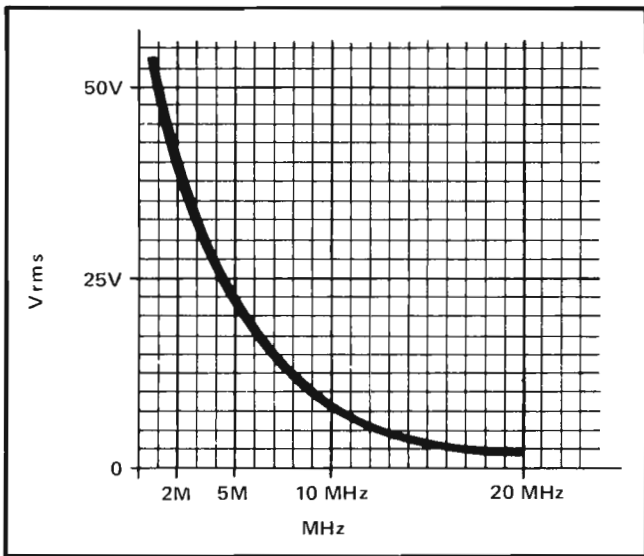

Figure 6-3. MAXIMUM RF SIGNAL LIMITS (V RMS) AT PROBE TIP
- RF signals applied to the 80T-150 probe tip can also cause errors in temperature measurement. Figure 6-3 defines the rf signal limits that can be tolerated without degrading measurement accuracy.